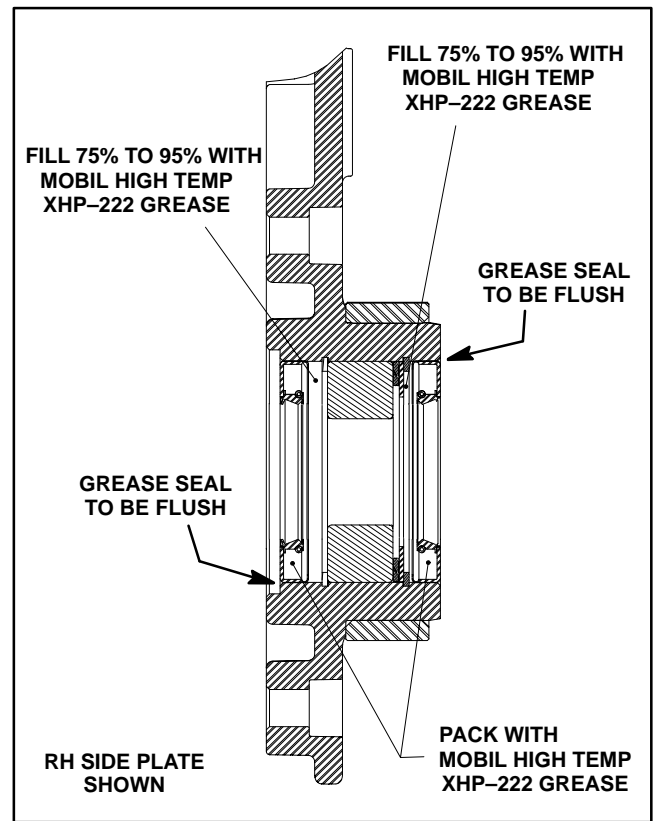

Figure 35
1. On RH side plate, if inner retaining ring (item 24) was removed, install inner retaining ring. Insert thrust washer (item 3) and then wave washer (item 20) into the side plate.
2. On LH side plate, insert o-ring (item 17) into groove in side plate. Make sure that o-ring is not twisted and is seated in side plate groove. Apply a light coating of grease onto the o-ring and side plate bore.
3. Pack bearing (item 18) with Mobil High Temperature XHP-222 grease (or equivalent). Press bearing into the side plate.
4. On RH side plate, install outer retaining ring (item 24) into side plate groove.
5. Pack the inner cavity of seals (item 16) with Mobil High Temperature XHP-222 grease (or equivalent). Also, fill side plate cavity between installed bearing and both seal locations 75% to 95% full with Mobil High Temperature XHP-222 grease (or equivalent) (Fig. 35).